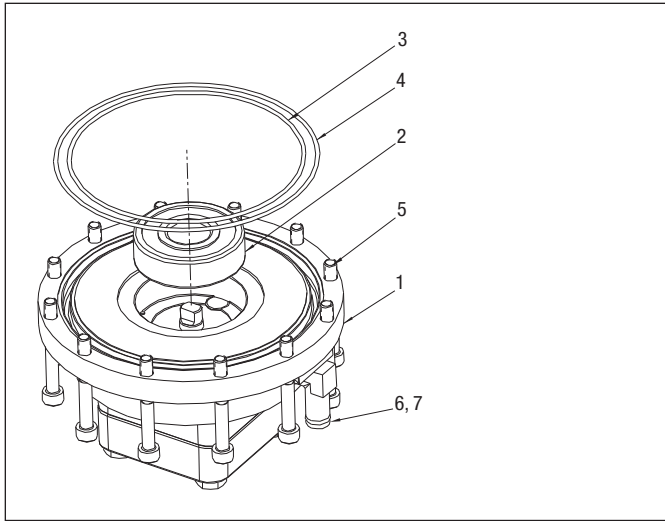

Figure 5, Gear Pump Assembly
Repair Parts List for Figure 5
5. Now remove the 12 screws (Fig. 5, item 5) on the bottom of the pump using a 5 mm Allen wrench.